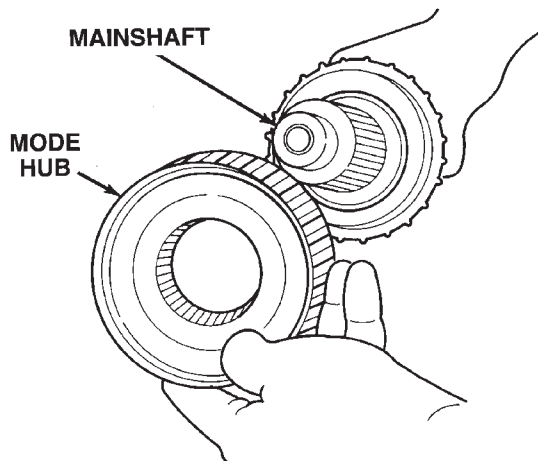

Fig. 40 Mode Hub Removal
- (2) Slide mode hub off mainshaft (Fig. 40).